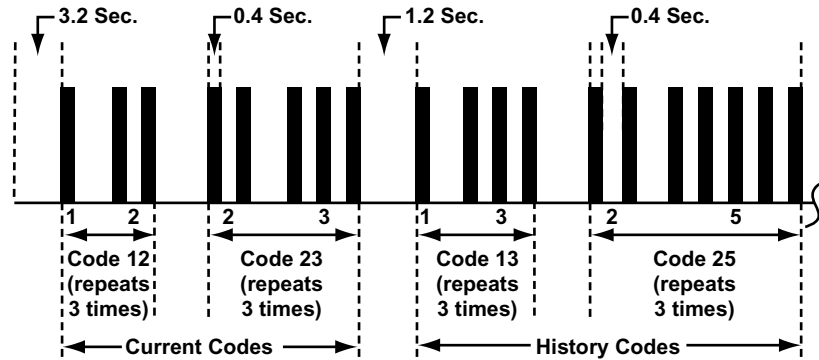

Figure 8-36 Honda SRS Code Type 03
- Type 03, see Figure 8-36 and Table 8-11 on page 81